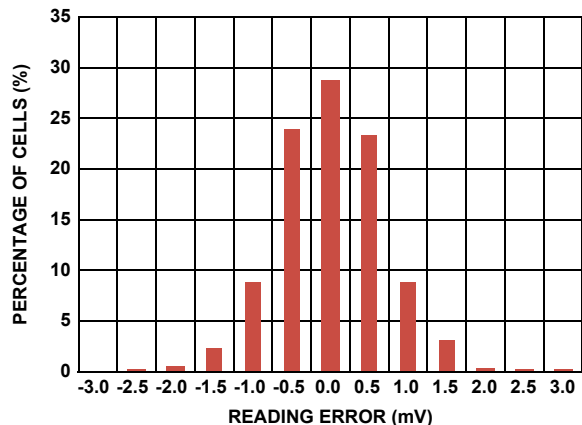

FIGURE 4B. CELL READING ERROR FROM 114 EVALUATION BOARDS AT 3.3V, +25 °C HISTOGRAM
- Stresses may be induced in the ISL78600 during soldering or other high temperature events that affect measurement accuracy. Initial accuracy does not include effects due to this. See Figure 4B for cell reading accuracy obtained after soldering to Intersil evaluation boards. When soldering the ISL78600 to a customized circuit board with a layout or construction significantly differing from the Intersil evaluation board, design verification tests should be applied to determine drift due to soldering and over lifetime.